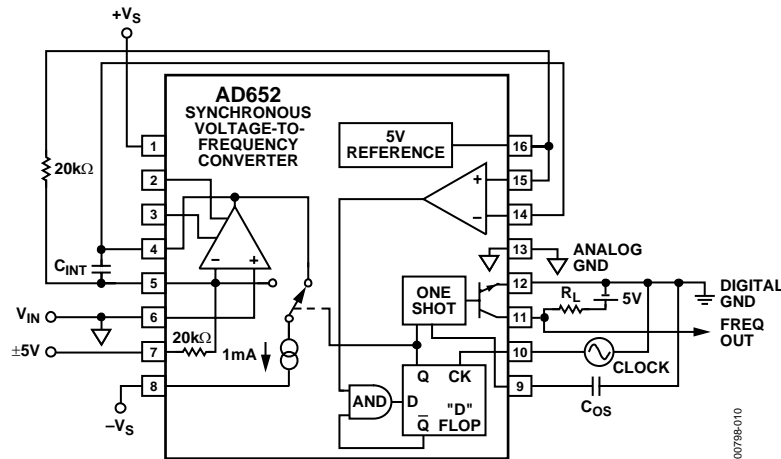

Figure 10. Bipolar Offset
A bipolar input voltage of ± 5 V can be accommodated by injecting a $250 \mu\text{A}$ current into Pin 5 (see Figure 10). A -5 V signal provides a zero sum current at the integrator summing junction, which results in a zero-output frequency; a $+5$ V signal provides a 0.5 mA (full-scale) sum current, which results in the full-scale output frequency.
1. Use an external resistor for R_{OS} and the internal 20 k Ω resistor for R_{IN} (as shown in Figure 10).